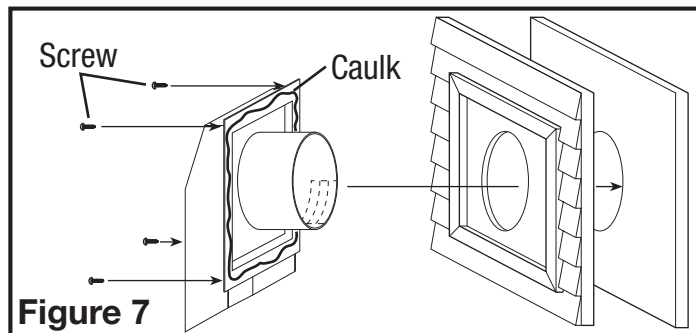

Figure 7
10. On the interior flange of the housing, apply a generous amount of caulking and install the housing through the hole and onto the casing strips and secure in place using screws or nails (not included) through the predrilled holes on the four corners of the housing. Seal the flange where the housing meets the wall with caulk (**Figure 7**).